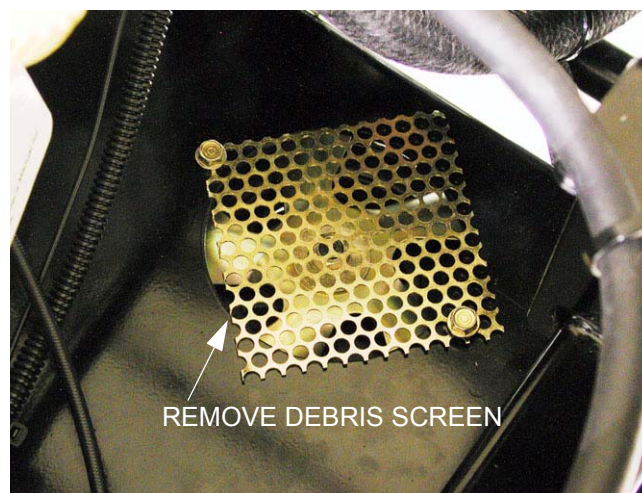

Figure 5.5
- 5.5. Remove the screen that covers the opening over the cooling fans on the hydro pump to be removed using a 3/8" wrench. See Figure 5.5.